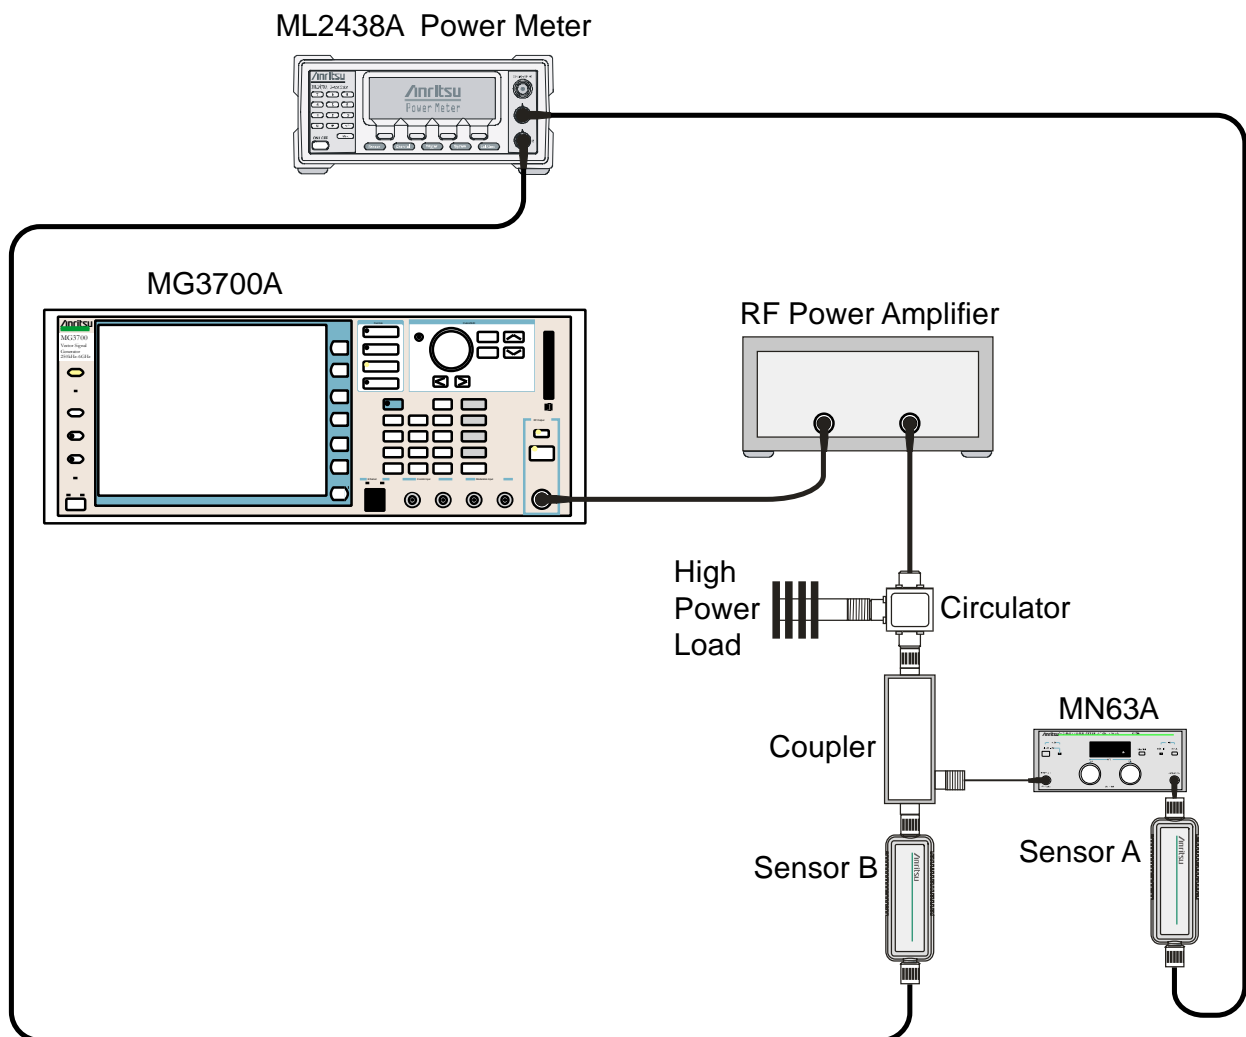

Figure 3-3. WCDMA Absolute Power Accuracy Verification — Characterization Setup
1. Connect the MG3700A, RF power amplifier, attenuator, power meter, and sensors as shown in Figure 3-3.
4. Press the **On/Off** key to turn on the MS2717B and wait until the measurement display appears. Then press the **Shift** key and press the **Mode** (9) key to activate the mode selection menu.
6. Press the **Shift** key, the **Preset** (1) key, and then the **Preset** soft key.